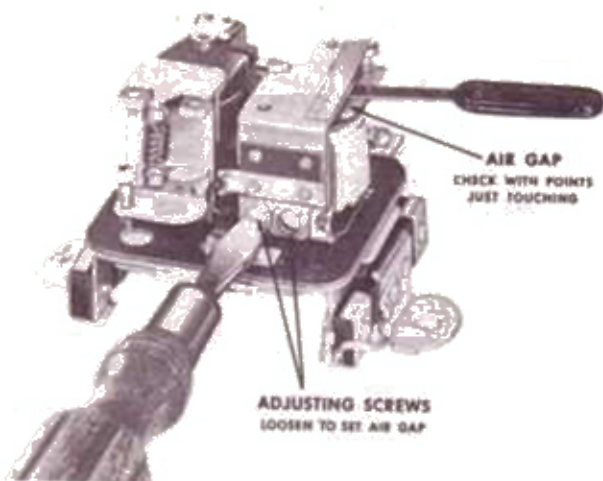

Figure 8—Cutout relay air gap check and adjustment (1118300 and 1118700 series). Battery must be disconnected when this check is made.
**AIR GAP (1118300 and 1118700 Series)**—Check and adjust as in 1118200 Series (Fig. 8).